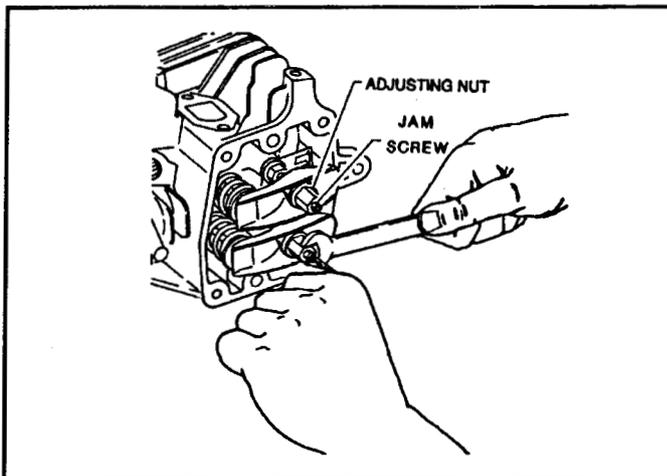

Figure 88
3. When the proper clearance has been achieved, tighten the set screw in the top of the adjusting nut with a 3 mm hex key to 45 in lbs (5 Nm). See Figure 88.